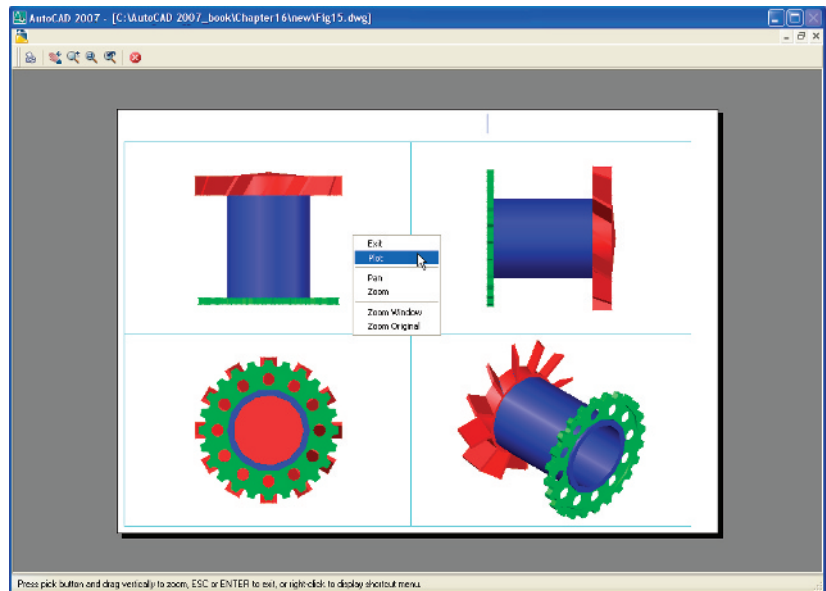

Fig. 16.31 Second example
3. Click the **Layout** button in the status bar. The drawing appears in **PSpace**. A view of the 3D model appears within a cyan-coloured viewport (Fig. 16.31).